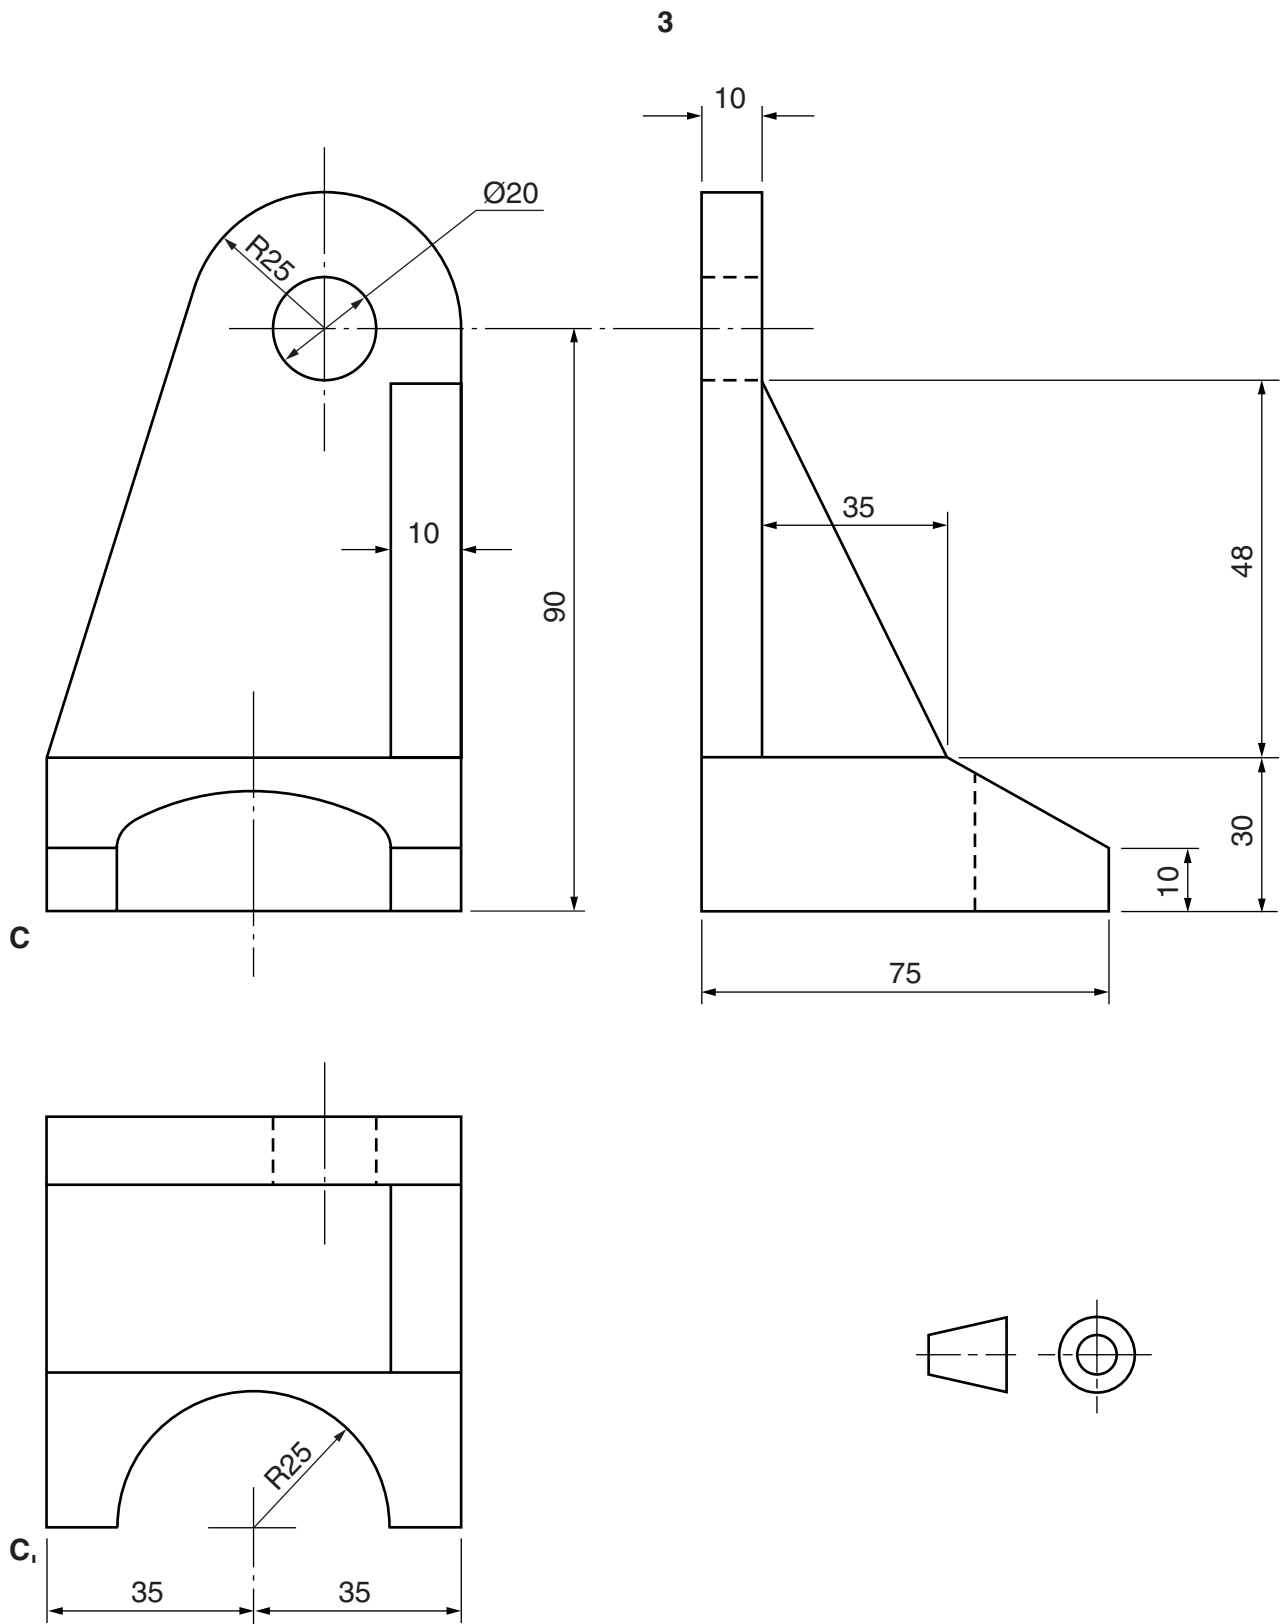

Fig. 1
- 1 Fig. 1 shows an angle bracket, drawn in first angle projection. Make a freehand pictorial sketch of this component, approximately full size and in good proportion, with C as the lowest point in the foreground.